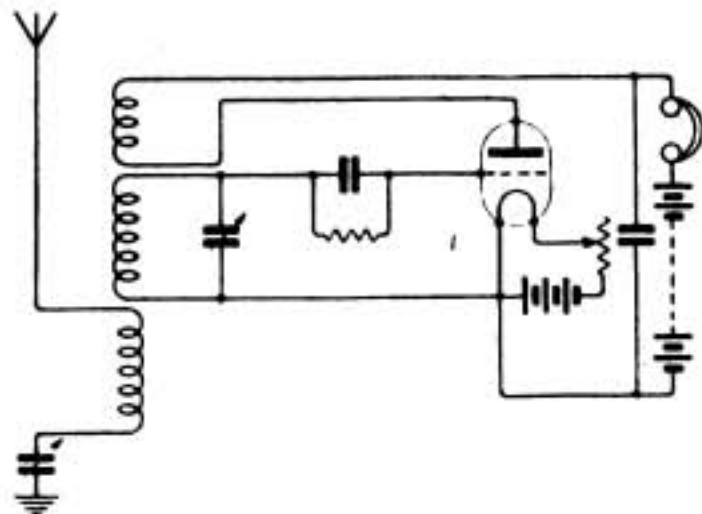
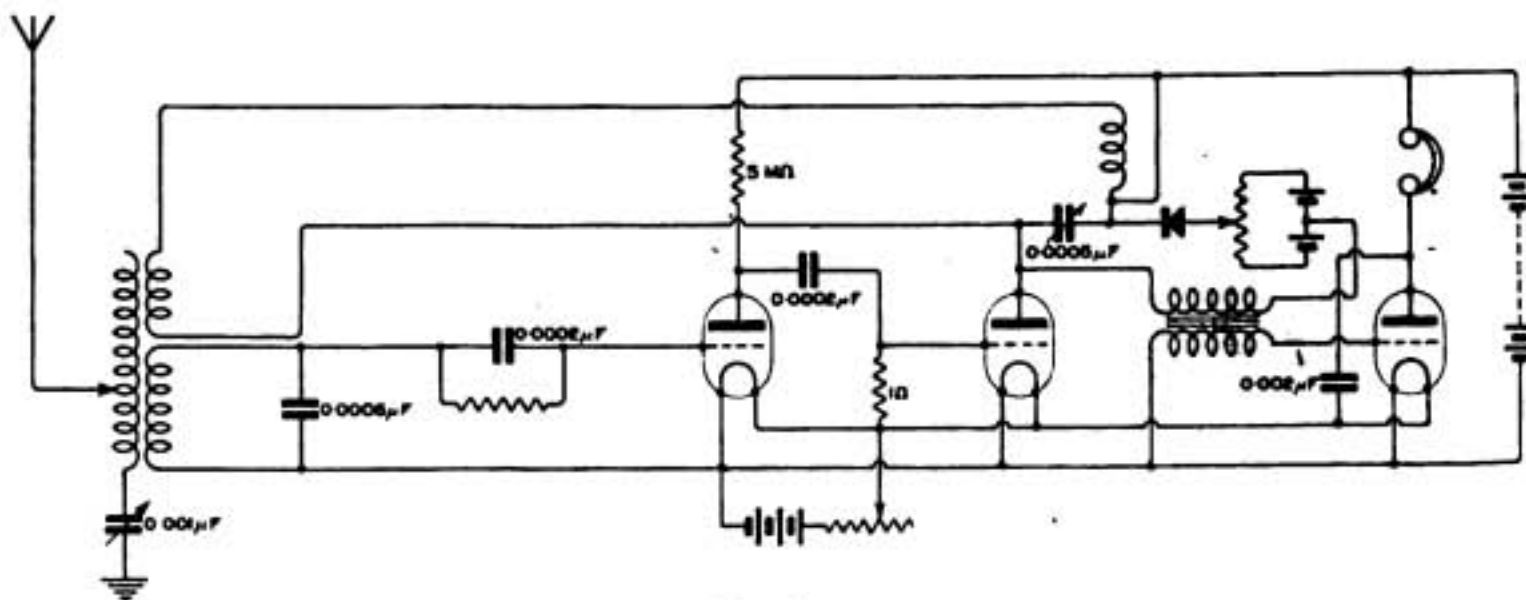

Fig. 1.
Fig. 2.
(1) See diagram (Fig. 1). (2) It depends on the power and wavelength of the transmitting station, and also how badly the receiver is shielded by the walls of the house. It is impossible to give any useful figures. (3) 120 ohms is the total resistance of the pair.
See diagram. (Fig. 2.)
what should be the value of B.2 (Fig. 2) to give a total input of 10 watts, using R type valves with V.1 and V.2. (3) Can this circuit be used for C.W., if so, where should the key be connected. (4) Is it necessary to have L.3 and L.4 (Fig. 2) of heavy gauge wire.
(1) The system is quite a good one. It has undoubtedly been used in certain forms by amateurs, but we do not know how far this particular modification has been applied. (2) You will not get a full 10 watts from 2 R valves efficiently. The 10 watts could be obtained by putting up the H.T. voltage, but the power radiated would not be increased. 150 volts will be as high as you can usefully apply. (3) Yes, insert the key in the grid circuit of the control valve, adjusting the static potential of the grid with a potentiometer until the best results are obtained. (4) The wire need not be of very heavy gauge for this power. Use, say, No. 18, or better, 7/24 or 7/26 stranded cable.
(1) and (2) Use former of ebonite rod 1" in diameter, and wind with Nos. 28 to 42 S.S.C. wire. For wavelengths up to 300 metres use 150 turns for primary and the same number for the secondary, wound over one another and insulated with a single layer of empire cloth. For 600 metres use 600 turns each. For 1,200 metres use 1,500 turns each, or, as this will be rather long, 800 turns on a 2" ebonite tube may be used. Beyond this wavelength use resistance capacity intervalve couplings. (3) For circuits see Fig. 1, page 235, May 20th issue; Fig. 2, page 213, May 13th issue, and read
"S.A.R." (Croydon).—(1) Your circuit Fig. 1 is quite correct, but without further practical details we cannot suggest cause of your trouble, as it must obviously lie in some constructional error. Your Fig. 2 is rather strange. For the reception of Croydon telephony transfer the variable condenser to the aerial circuit. No circuit termed "reaction" is required with a crystal receiver. (2) You can easily add H.F. valve and for circuit see Fig 8, page 217, May 13th issue, using common H.T. and L.T. batteries for the operation of both valves. (3) "Note magnifying" or "L.F. valves" magnify after rectification of oscillations. "H.F." valves increase the amplitude of high frequency oscillations. (4) The basket coils you propose making are quite unsuitable for 400 metre reception. The aerial coil 1" inside diameter x 4" outside, wound with No. 36, would tune a P.M.G. aerial up to approximately 1,200 metres, and such fine wire is not recommended. Make up flat coils similar to those shown on pages 327 and 328 June 10th issue.
(1) A properly arranged set would tune to about 2,000 metres, but would not be efficient above about 800 with so small a coil. (2) The suggested scheme is very poor. Try the circuit of Fig. 2, page 120, April 22nd issue. (3) Apparatus required:—
(4) See diagram in Fig. 2, page 213, May 13th.